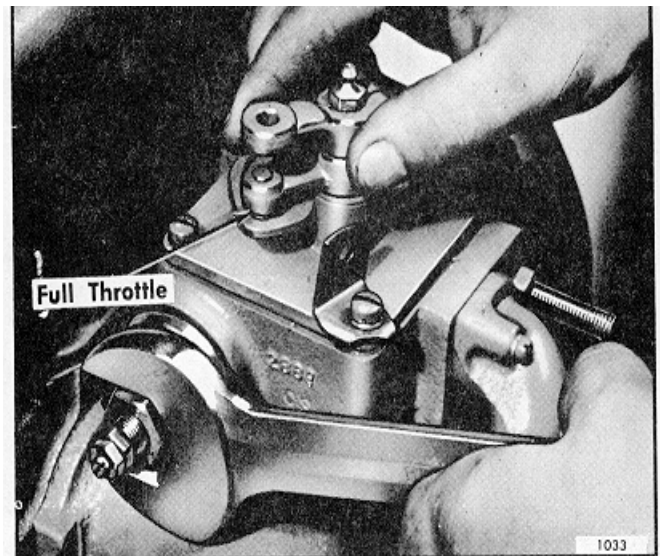

Figure 10 - Adjusting High Speed
Turn the high speed adjusting screw (38) until the desired no-load maximum speed is obtained with the throttle lever in a wide open position, Fig. 10.